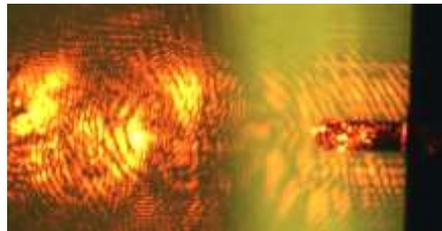

FIGURE 3: Laser alignment, often you get diffraction pattern instead of a visible spot
12. For details on alignment of laser see page 89 of Eaton and West. Get the maximum signal. The laser may not look like a discreet spot, see figure 3.